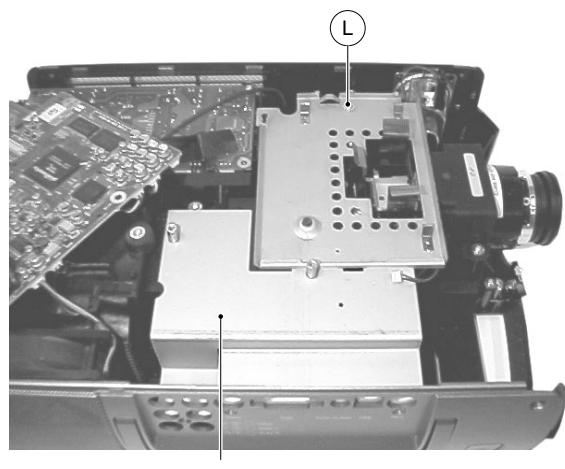

Fig. 9
3. Remove screw "L" (Fig. 9). Now the bottom shield can be removed.